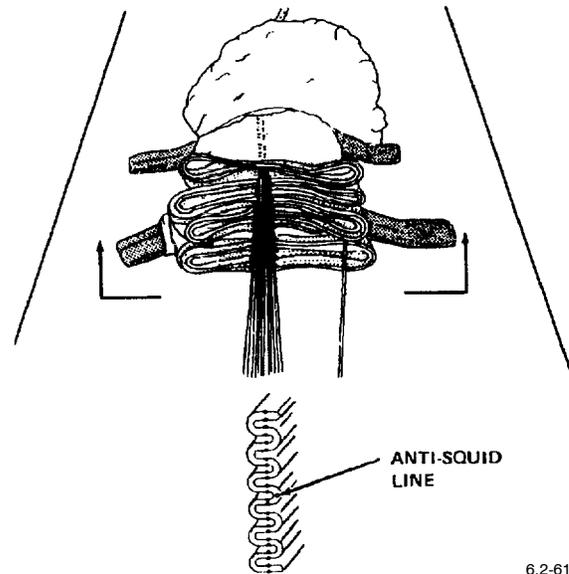

Figure 28. Placement of Shot Bags
f. Place shot bags on folded stabilizer drogue canopy (Figure 28).